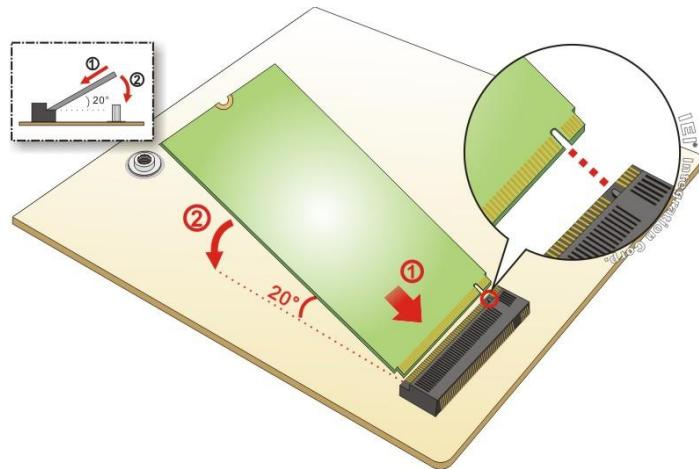

Figure 3-8: Inserting the M.2 Module into the Slot at an Angle
Step 3: Line up the notch on the module with the notch on the slot. Slide the M.2 module into the socket at an angle of about 20° (**Figure 3-8**).